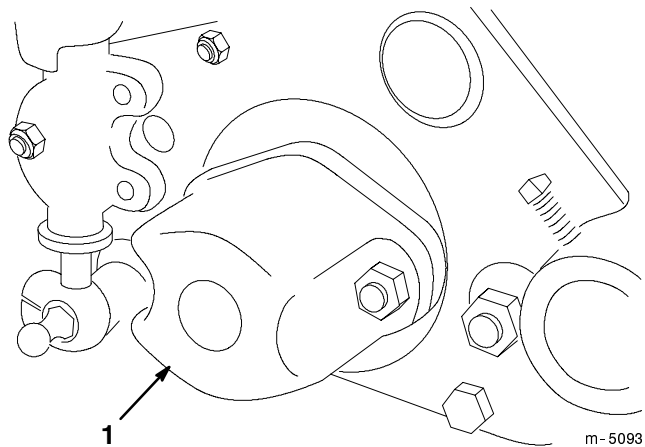

Figure 13
- A. Remove the mounting nuts from the counterbalance end cap and remove the end cap from the mounting studs (Fig. 13).
- C. With the wrench mounted, hold the reel and tighten the large reel bearing adjustment nut (Fig. 13). Tighten it until the drag on the reel meets the 7 to 11 in.-lb. specification.
- D. Install the bolt into the end of the reel shaft (Fig. 13) and check the torque with an inch/pound torque wrench.
2. Remove the counterbalance end cap (Fig. 13).